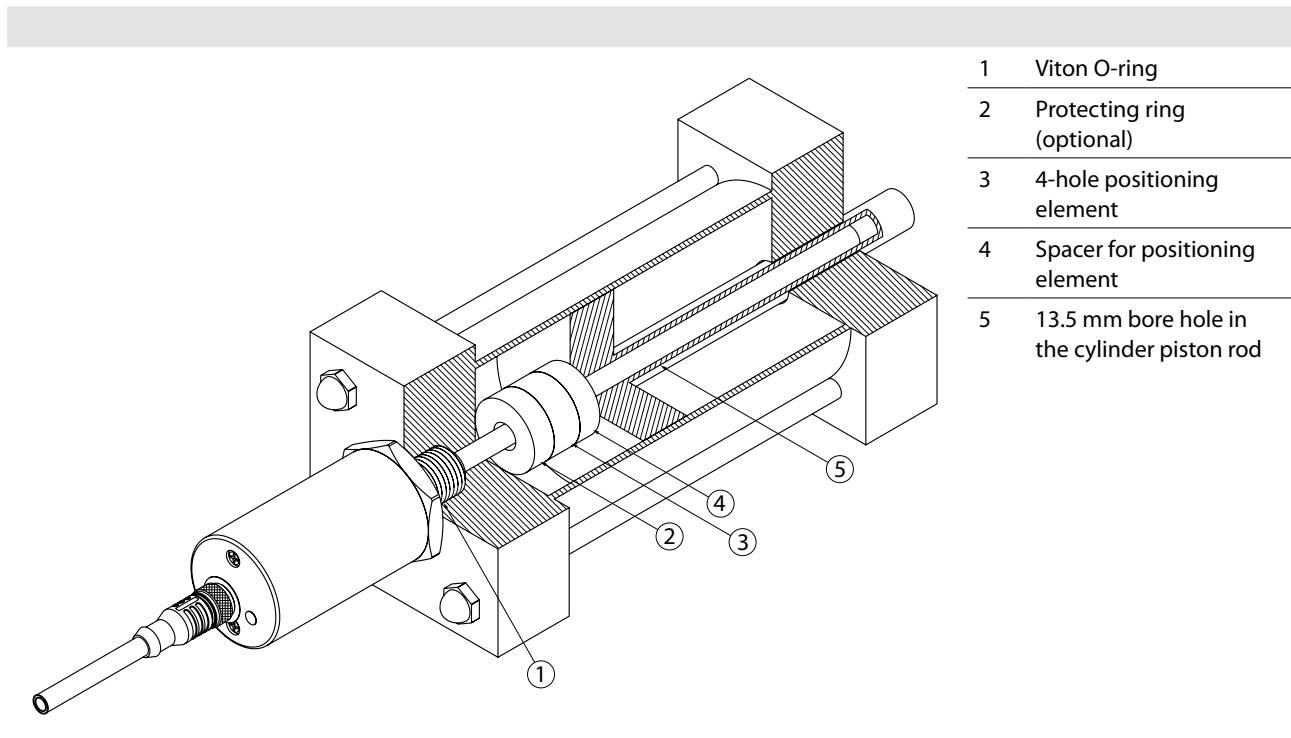

Fig. 8: Mounting the device in a hydraulic cylinder
- ▶ Recommended for sensors with measuring probe lengths  $\geq 1500$  mm: use protecting ring, e.g. made of polymer (see Fig. 8, no. 2). The protecting ring prevents mechanical wear of positioning elements by the pressure pipe when the piston is fully extended.